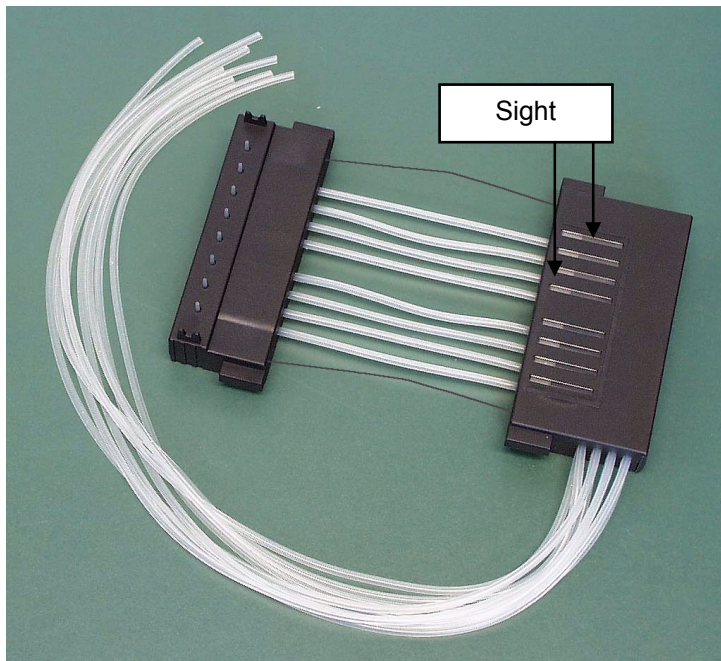
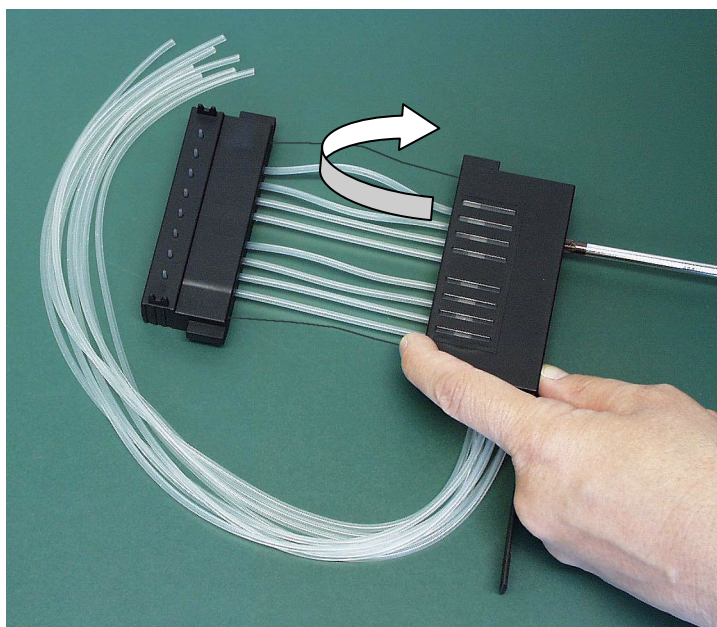

Fig. 7.32 Dispensing cassette before precalibration
Fig. 7.33 Precalibrating the dispensing cassette
17. Turn the dispensing cassette so that the eight sight strips are visible (Fig. 7.32). Look at the eight sight strips in the upper part of the dispensing cassette. You will notice that the tubes are not precalibrated. First open the calibration screw cover. For precalibration of the dispensing cassette, adjust the tube fasteners in the sight strips roughly to the middle using a hexagonal screwdriver (Fig. 7.33).